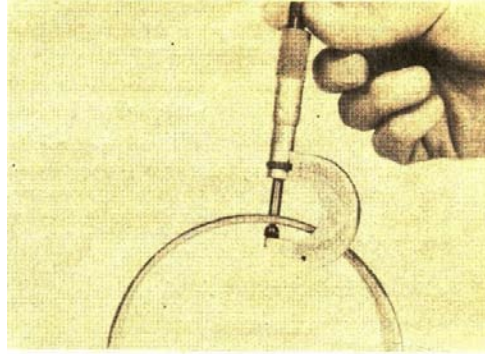

Fig. 1-18. Measure the bearing shell
1. Measure the shell with a ball point micrometer (Fig.1-18), dial indicator thickness gauge or comparator. Discard shells that are worn more than 0.001 inch (0.03 mm) or if chipped or otherwise damaged. See Table 1-1 (7-8) for thickness of standard shells.